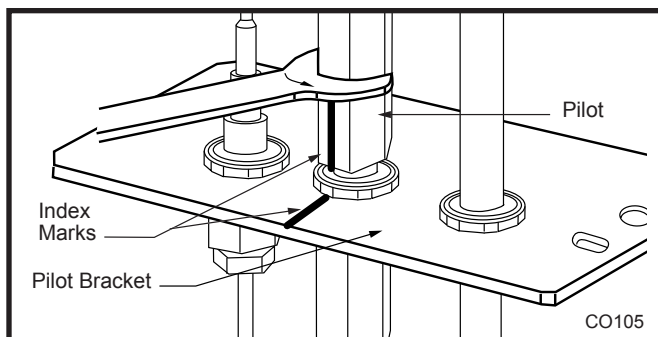

Fig. 54 Remove pilot hood. (Your pilot may have a different appearance).
8. Remove injector orifices from left burner leg using 1/2" wrench. (Fig. 54)
- Loosen pilot hood turning counterclockwise using a 7/16" wrench. (Fig. 54) **NOTE:** You may use penetrating oil to prevent pilot hood threads from seizing up.